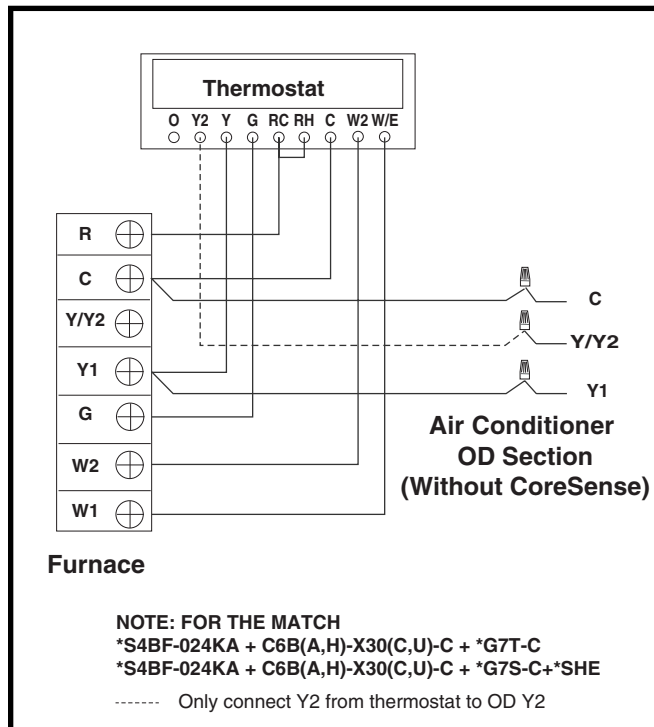

Figure 3. Typical 2-Stage Air Conditioner (without CoreSense) with Gas Furnace
- Thermostat connections should be made in accordance with the instructions supplied with the thermostat and the indoor equipment. Typical AC and thermostat hookups are shown in Figure 3, \(page 6\).